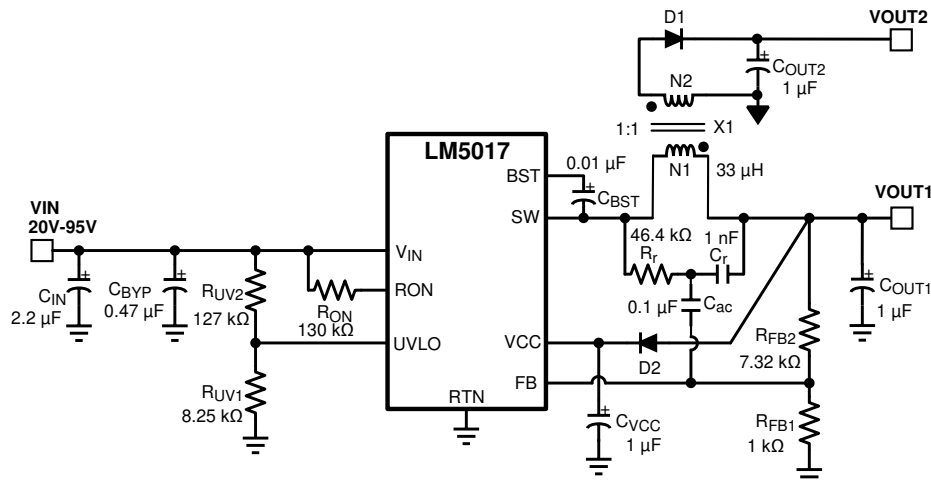

图 8-5. Typical Isolated Application Schematic
An isolated supply using the LM5017 is shown in 图 8-5. Inductor (L) in a typical buck circuit is replaced with a coupled inductor (X1). A diode (D1) is used to rectify the voltage on a secondary output. The nominal voltage at the secondary output (V_{OUT2}) is given by 方程式 20.